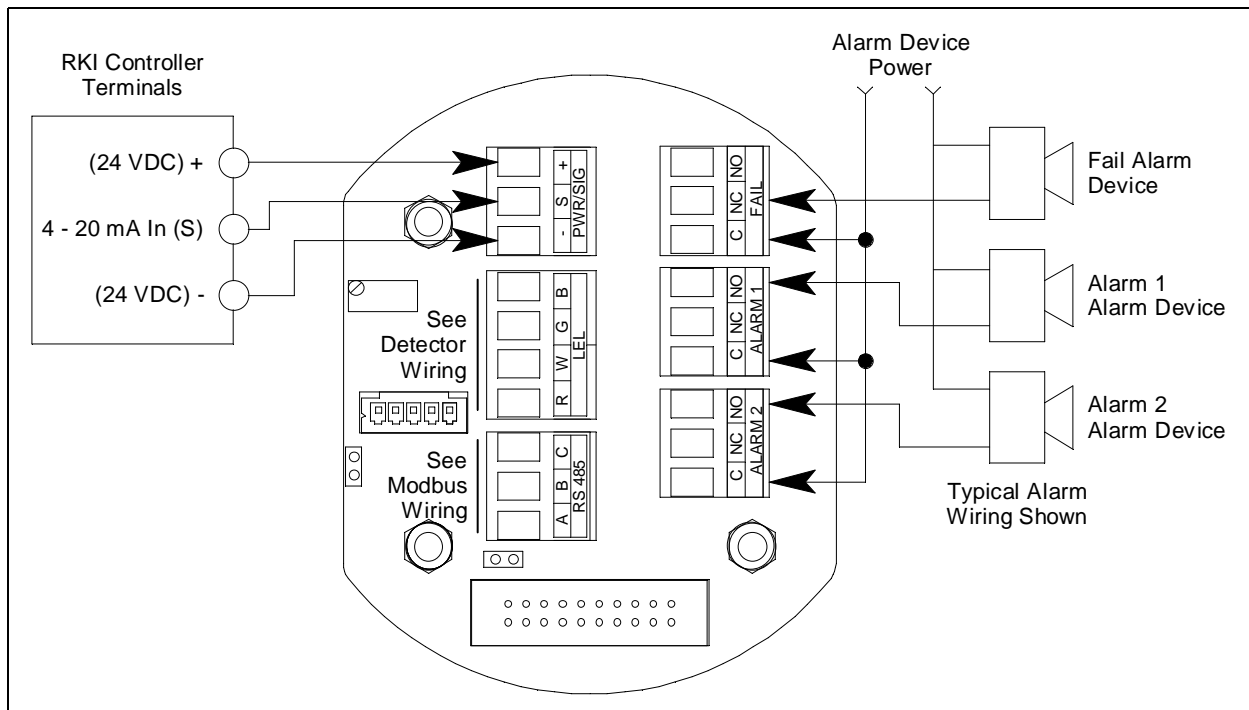

Figure 8: Wiring the M2A Junction Box to a Controller and Alarm Devices
- If the M2A will be wired into a Modbus network, see "Chapter 8: RS-485 Modbus Output" on page 40. See Figure 8 below for field wiring connections to the M2A.